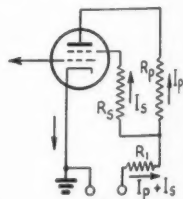

Fig. 5
In the circuit of Fig. 5 both plate and screen currents flow through the common resistor,  $R_1$ , so that plate and screen currents must be added in calculating the voltage drop across  $R_1$ .
*Example:* In Fig. 5,